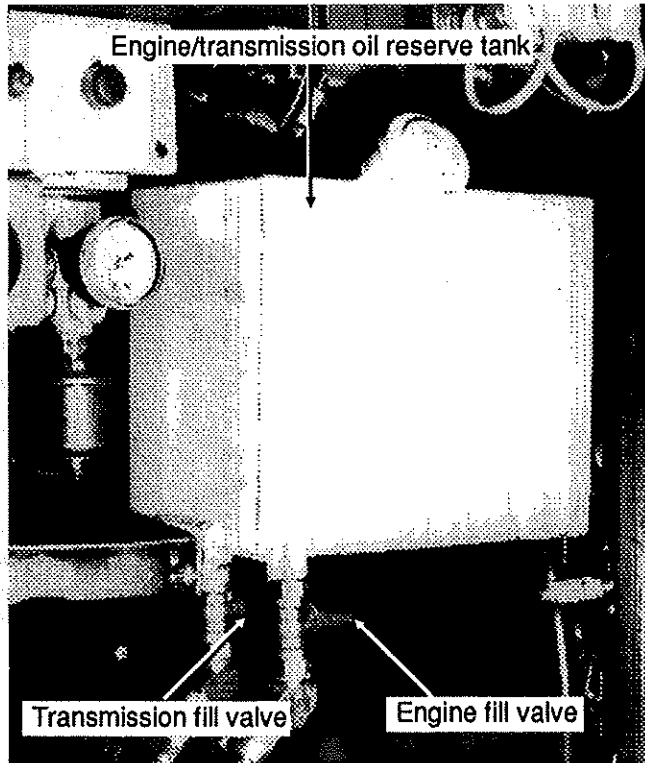

Fig. 2
3. To refill transmission, open the appropriate valve under the engine/transmission oil tank and pour oil into transmission until reaching the "FULL" mark on the dipstick, then close the valve (refer to fig. 2). Check oil reserve tank level through the level sight tube on side of tank. Refer to section 24 "Lubrication" for recommended oil type.
16. Make sure that the drain plug is in place, then refill transmission through the engine/transmission oil tank. Open the appropriate valve under the oil tank and pour oil into transmission until reaching the "FULL" mark on the dipstick, then close the valve (refer to fig. 2). Check oil reserve tank level through the level sight tube on the side of tank. Refer to section 24 "Lubrication" for recommended oil type.